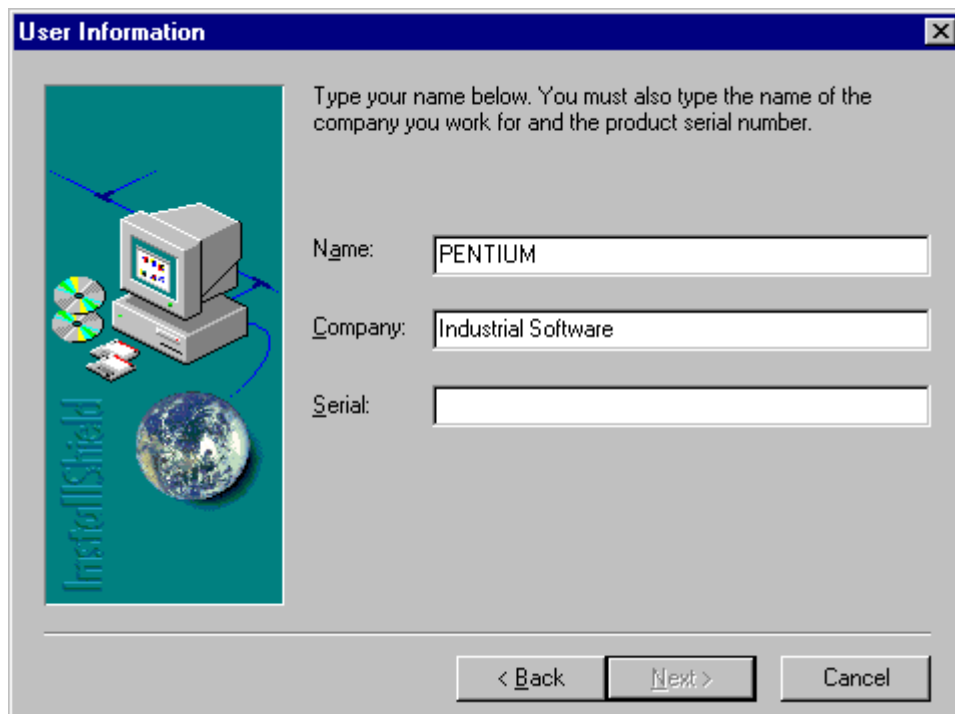

Fig. 3.3
- Click **Yes** button - The **User Information** dialog box appears as illustrated in Fig. 3.3.